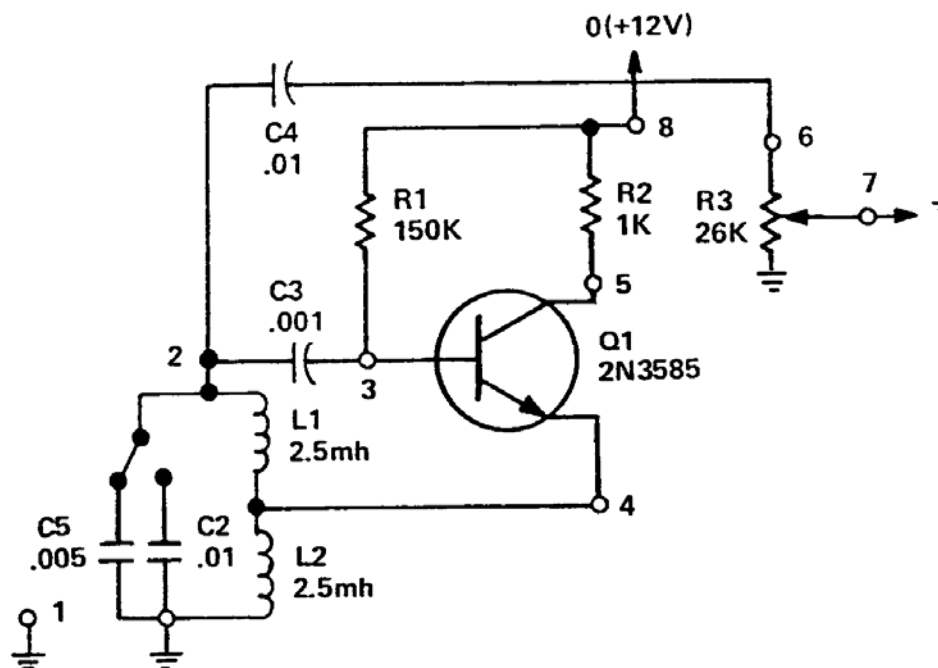

Figure C-2. Hartley Oscillators
If the AC output from the circuit in Figure C-2 ceases, then we must troubleshoot the circuit and try to isolate the stage that has the malfunction.
a. If the AC output from the circuit in Figure C-2 ceases, we must troubleshoot the circuit and try to isolate the stage that has the malfunction. Remember to follow the basic approach to troubleshooting sinusoidal oscillators as previously discussed in this section.